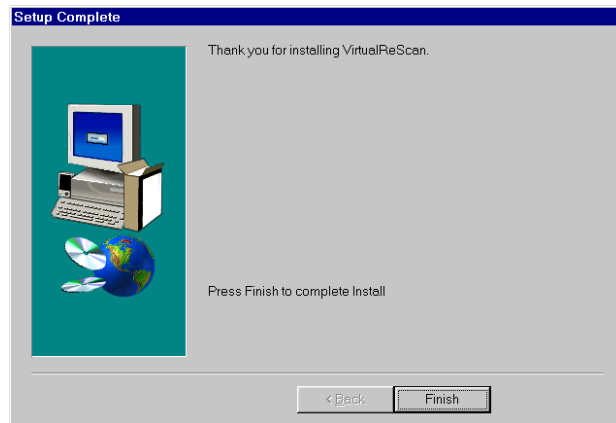

Figure 20. Setup Complete Dialog Box
- 14 When the Software VRS installation finishes, the **Setup Complete** dialog box appears, similar to Figure 20.